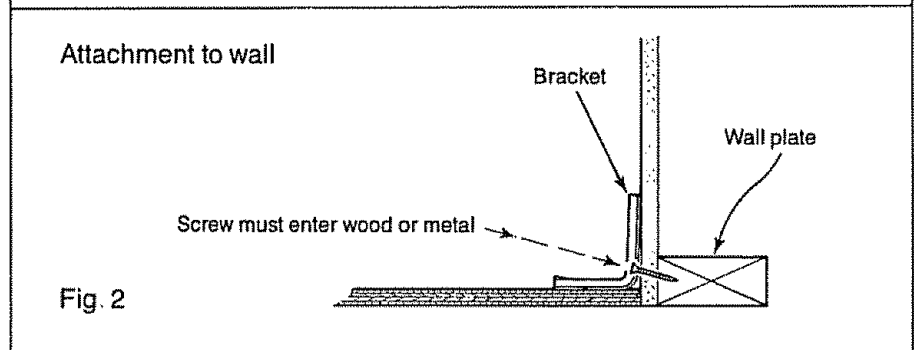

Fig. 2
3. Determine whether you will anchor the bracket to the floor or to the wall as shown in figure 2. Fasten the bracket securely with the screws provided. Screws are self-drilling in wood, plywood, particle and chip board, and most metal framing. If attaching to
- The range may be placed with 0" clearance (flush) at the back wall and side walls of the range if the front edges of the range side panels stick out beyond the cabinet fronts at least 1/4". See Figure 2.